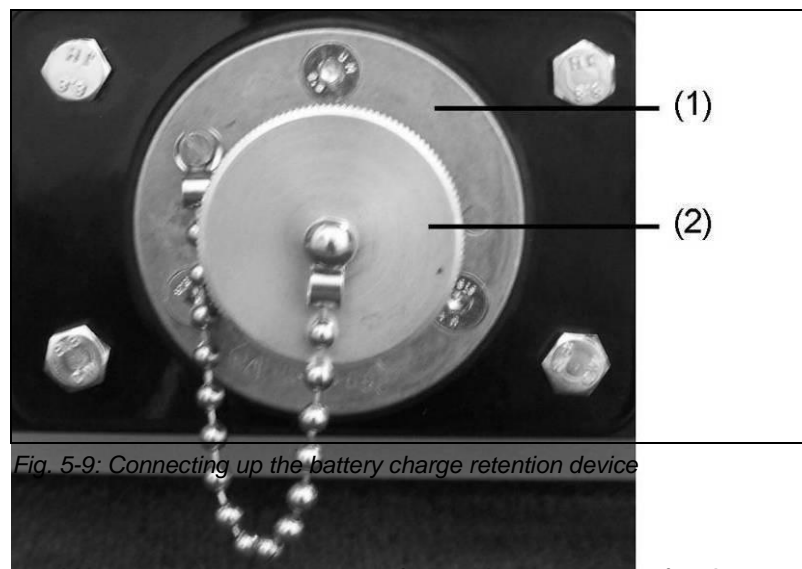

Fig. 5-9: Connecting up the battery charge retention device
1. Unscrew cover (Fig. 5-9 (2)) for socket (Fig. 5--(1)) for the starter battery charge conservation device.
2. Screw on protective cap (Fig. 5-9(2)) for charge conservation device socket.